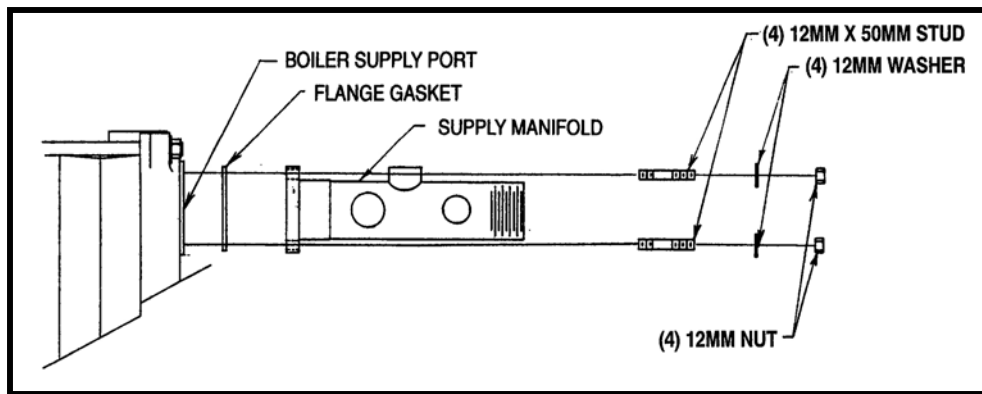

Figure 14. Supply Manifold Assembly
- a) Attach supply manifold as shown in Figure 14.